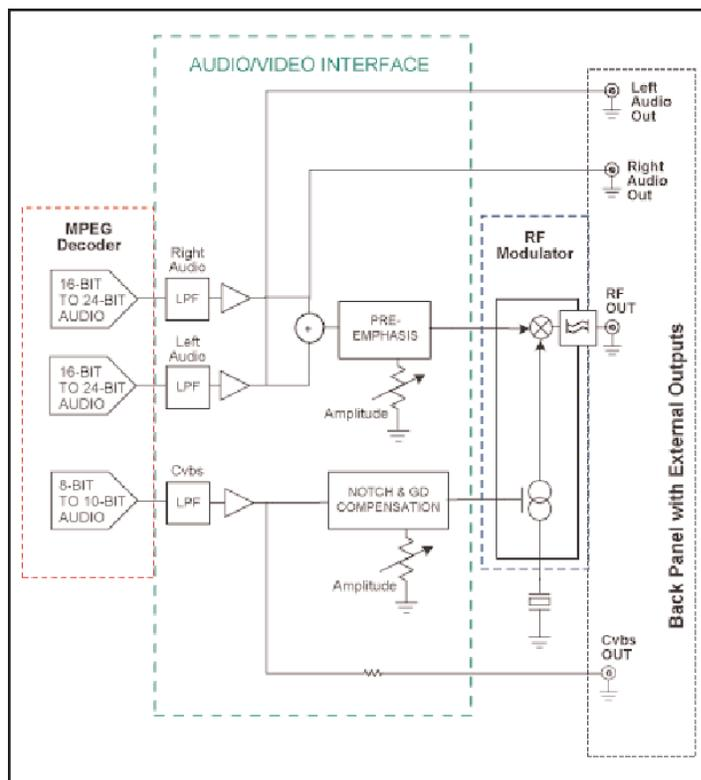
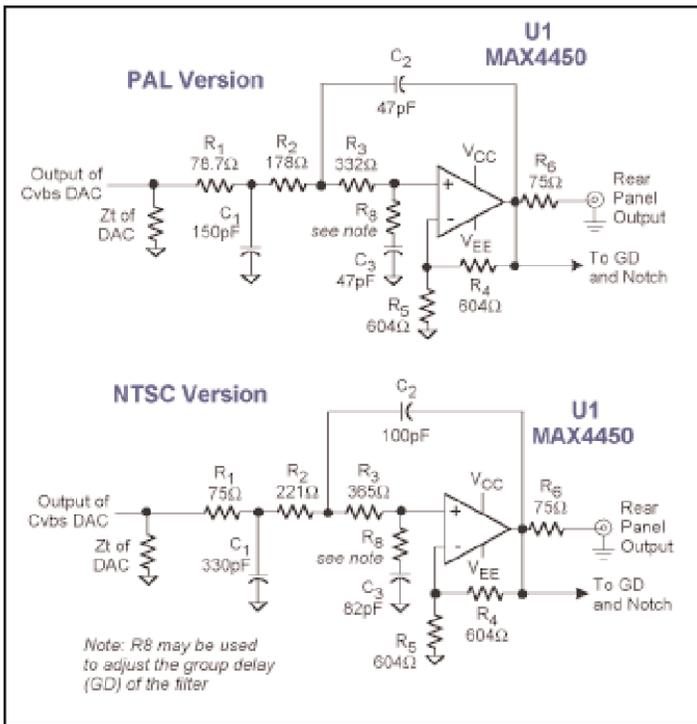

Figure 1. Block Diagram of A/V Signal Conditioning to Drive an RF Modulator.
Figure 3. NTSC and PAL Reconstruction Filters.
For driving RF modulators in NTSC and PAL systems, the allowable video group-delay variation and required audio pre-emphasis are clearly specified by Recommendation ITU-R BT.470-6. Most of the other indistinct specifications are summarized and extrapolated to include other, unstated design specifications in **Tables 1 and 2**. Table content is based on typical back-panel outputs for a TV, DVD, or set-top box having both baseband and RF-modulated A/V outputs (**Figure 1**).
Note 1: See Figure 3 of ITU-R BT.470-6.
The requirement to notch-filter the video around the audio subcarrier is not stated, but implied by the group-delay adjustment described in Figure 3 of ITU-R BT.470-6. Such notch filtering is usually recommended for modulator chips. Also requiring attenuation are the rear-panel signals, whose output levels are typically higher than required for the modulator inputs. These conditions lead to requirements for the A/V interface of Figure 1:
- Group-delay compensation to meet the profile in Figure 3 of ITU-R BT.470-6, as determined by that standard
Video adjustment is more difficult. It is not highly oversampled and, therefore, requires at least a three-pole reconstruction filter. If this filter causes excessive group-delay variation, you must compensate for it and add gain to make up for variations in the video DAC output and back-termination loss. Again, the best solution is an active filter. A suggested design for NTSC or PAL² applications is shown in **Figure 3**. Benefits of this design are adjustable group delay (using R8), and the ability to drive the rear panel as well as the input to the video portion of the RF modulator. You can address multiple outputs such as composite video and S-video by combining the active filter with a triple or quad op amp (like the MAX4382 or MAX4383).